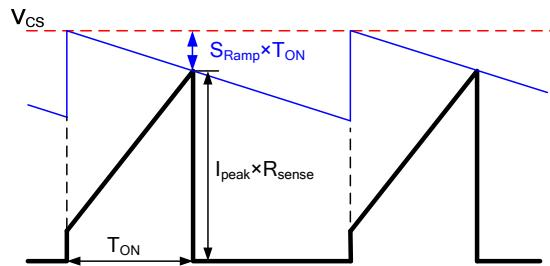

Figure 9: Slope Compensation Waveform
Figure 9 shows the slope compensation waveform. When the sum of the sense resistor voltage and the slope compensation voltage reaches the peak current limit ( $V_{CS}$ ), the HF900 turns off the internal MOSFET. The maximum peak current limit is 0.97V ( $V_{CS}$ , typical value), and the slope compensation slew rate is 40mV/μs. Considering the margin, use  $0.95 \times V_{CS}$  as the peak current limit at full load. The voltage on the sense resistor is given using Equation (13):